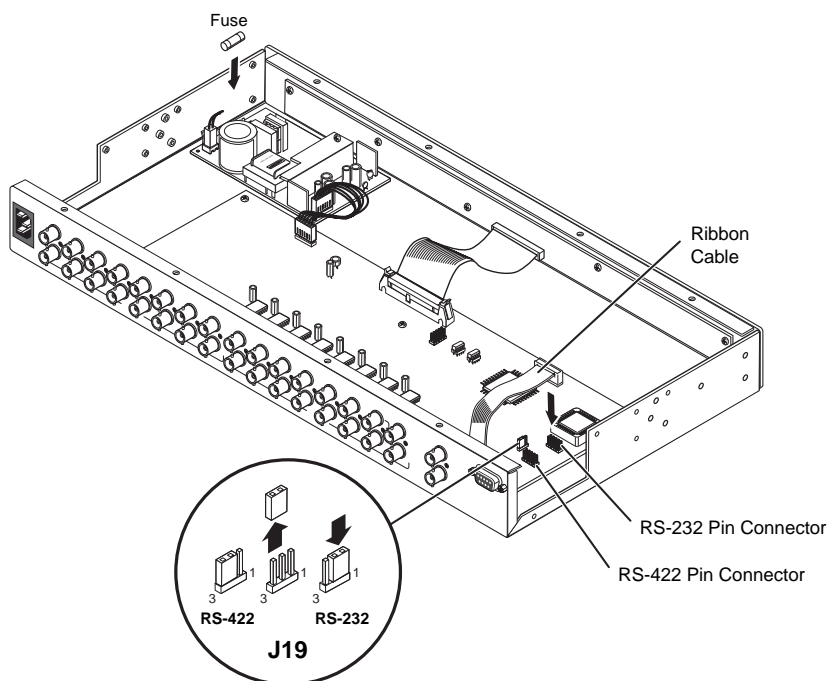

Figure 6-2 — Digital XPoint switcher main board
2. On the switcher’s main circuit board (figure 6-2), locate the RS-232 and RS-422 ribbon cable. Shift the cable to the desired receptacle.
2. Locate the fuse on the power supply board (figure 6-2), and remove it from its retaining clips.